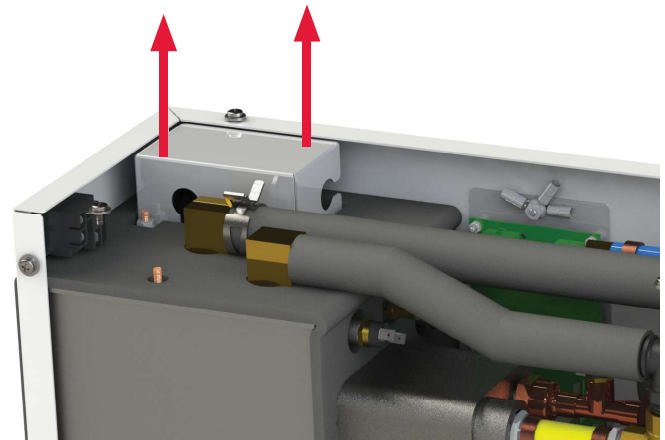

Figure 32
1. Disconnect all sources of AC and DC power from the Aqua-Hot (if the AC high-limit thermostat is the issue, the AC access cover will need to be removed - see Figure 32).